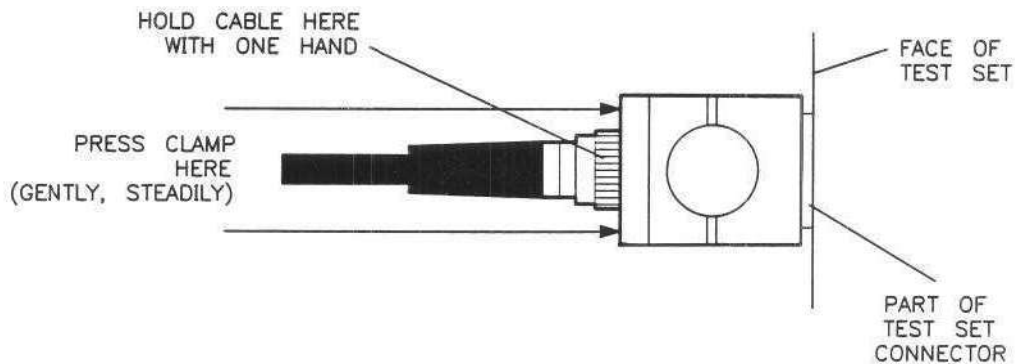

Figure 3-6. Mating the Clamp and Nut Flats
- See Figure 3-6. Hold the cable with one hand, and with the other press the clamp gently and steadily while wiggling the clamp straight over the RF connector and onto the test port connector nut. The internal flats in the clamp must fit over the flats on the test port connector nut. Try not to rotate the clamp as you do this or the RF connection may be loosened.